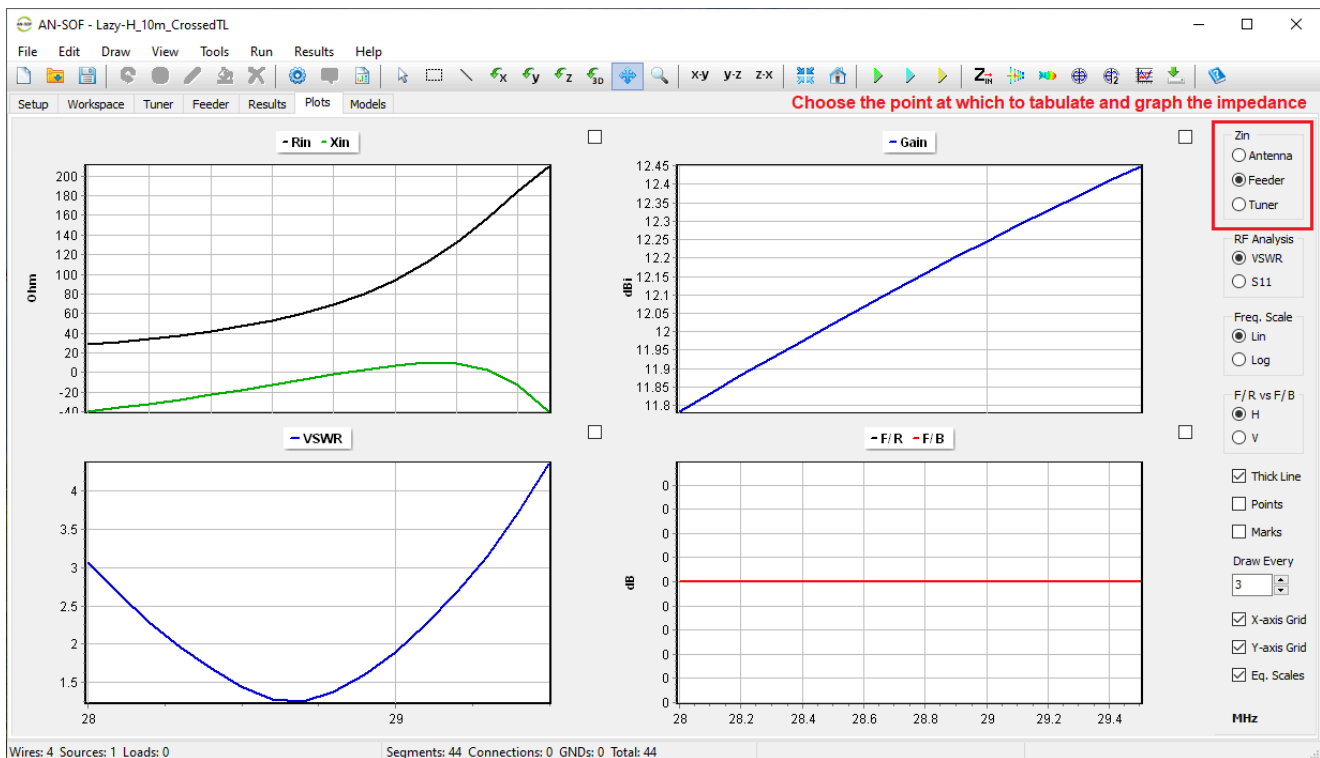

Fig. 2: Plots tab in the main window, showing the Antenna, Feeder, and Tuner options in the Zin box for selecting the point to tabulate and graph impedance.
1. Navigate to the **Plots** tab > “**Zin**” box (see Fig. 2) and choose between **Antenna**, **Feeder**, or **Tuner**.